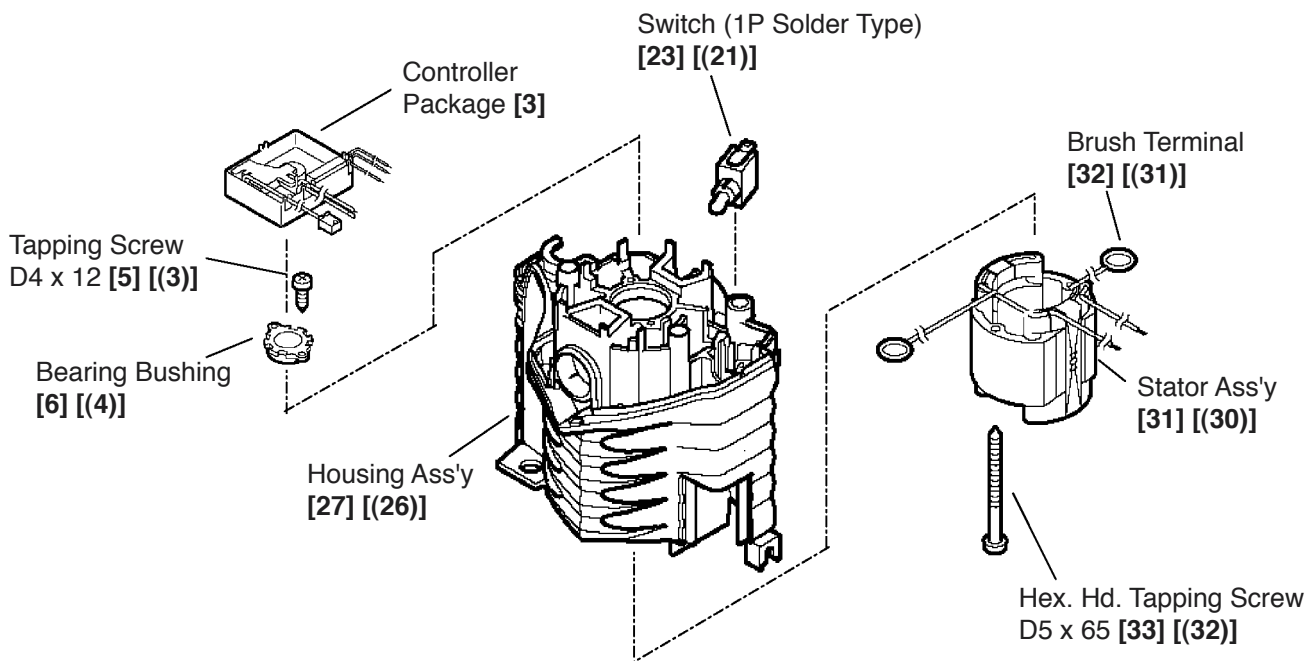

Fig. 6
(5) Remove the Stator Ass'y [31] ([30]) (Fig. 6)